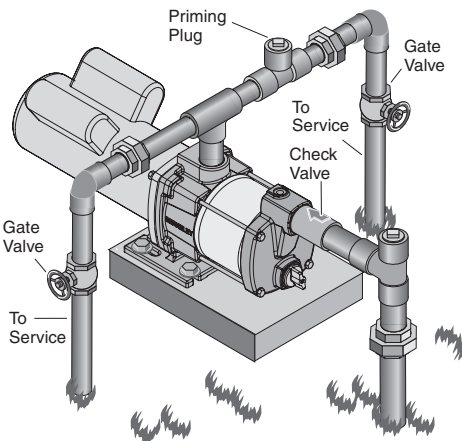

Figure 7 – Multiple Discharge
Pump discharge can be divided to supply two (2) or more sprinkler systems. A suggested multiple discharge to service is shown in Figure 7.